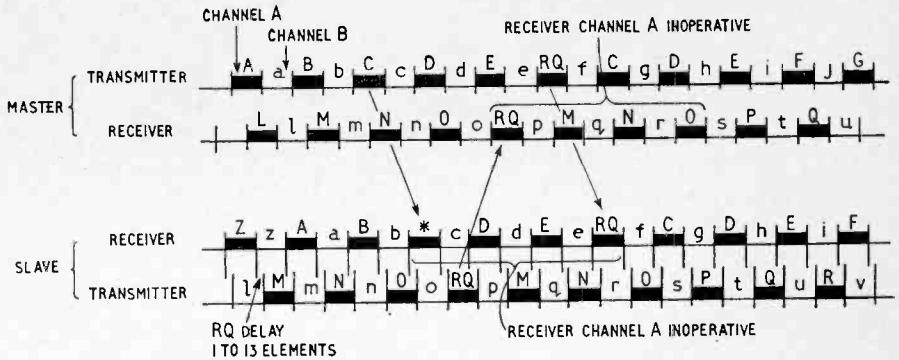

Fig. 5. Repetition cycle after error detection in the Autoplex.
**Repetition Circuits.**—If the error detector indicates an incorrect mark element count, or the decoder detects the RQ combination, a repetition cycle is initiated on the appropriate channel. In this period (4 characters for 3-character storage) continuous stop polarity is normally applied to the receiver channel output wire to hold the printer. In the transmitter, the input character stepping device is stopped to permit the transmission of the RQ signal followed by a repetition of the characters in the channel store. As these characters are transmitted, they are automatically stored again in case a further repetition is required. At the end of repetition cycling normal traffic is resumed. The repetition cycle is shown in Fig. 5. Character C transmitted in the master-slave direction on channel A is falsified in transmission and detected as an error.